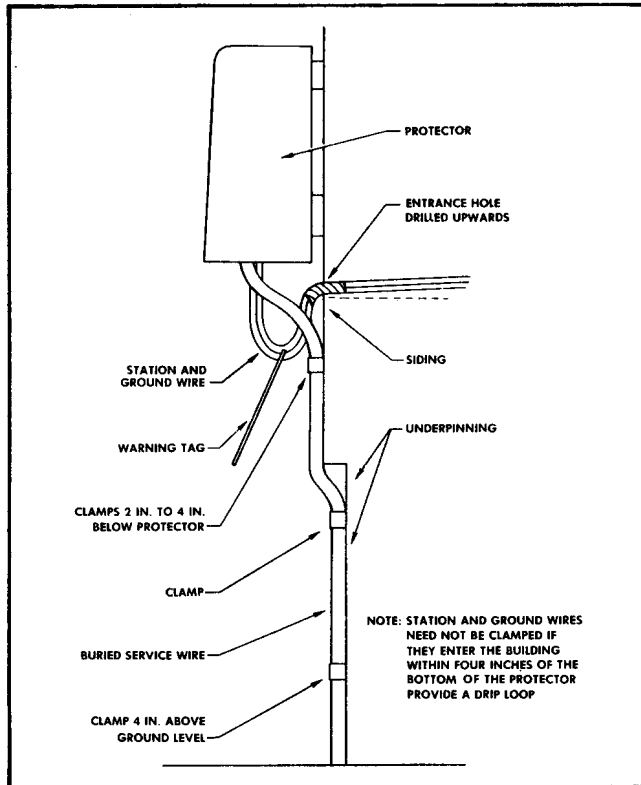

FIGURE 17.
5.04 All the measurements shown in Figures 17 through 21 should be followed when locating and wiring station protectors.